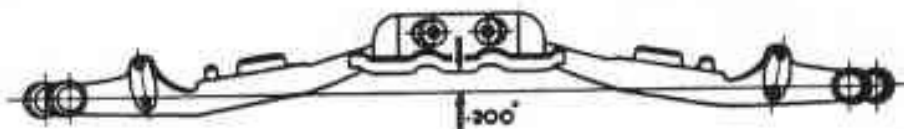

FIG. H21.
- (b) Place a long straight edge against the underside of the centre plate and move one of the triangle levers until the centre of the bore in the outer end of the lever is .200" below the underside of the centre plate as shown in Fig. H21. Tighten up the castellated nut and secure. While tightening the nut, check that the lever has not moved from the .200" position.